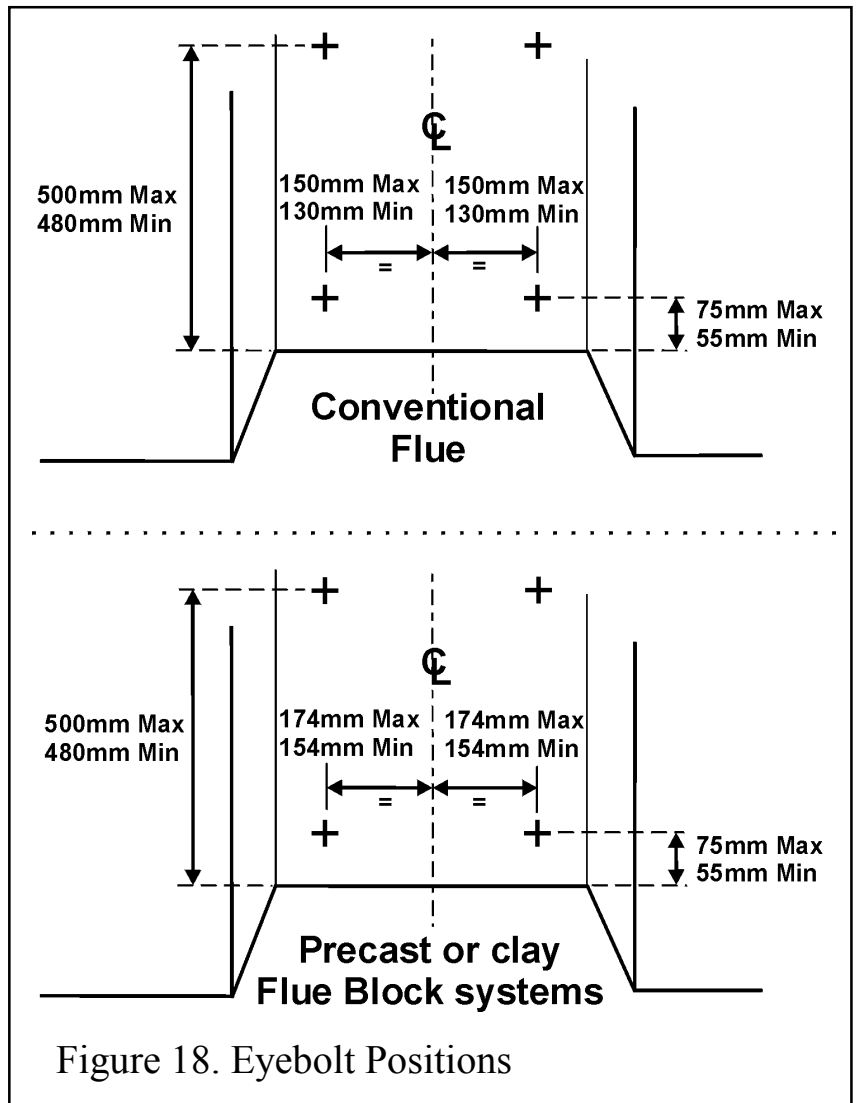

Figure 18. Eyebolt Positions
2. Drill four holes in the rear wall or floor of the fireplace for the eyebolt plugs. The holes should be drilled within the range of positions shown in figure 18 using a no.12 masonry drill. The holes should be equidistant each side of the centre line of the fireplace to ensure that the appliance finishes centrally in the opening when tension is applied to the cables.